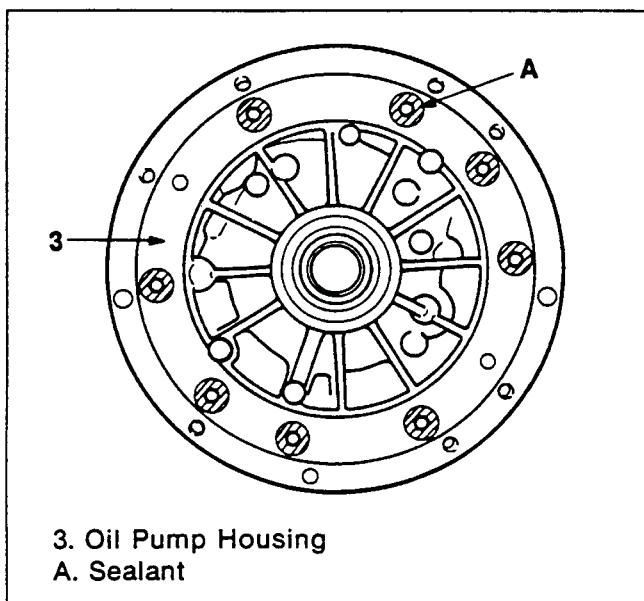

Figure 77. Oil Pump Cover Installation (4)
6. Tighten bolts evenly in a cross pattern sequence (figures 77 and 78).
- Oil pump housing bolts (21)